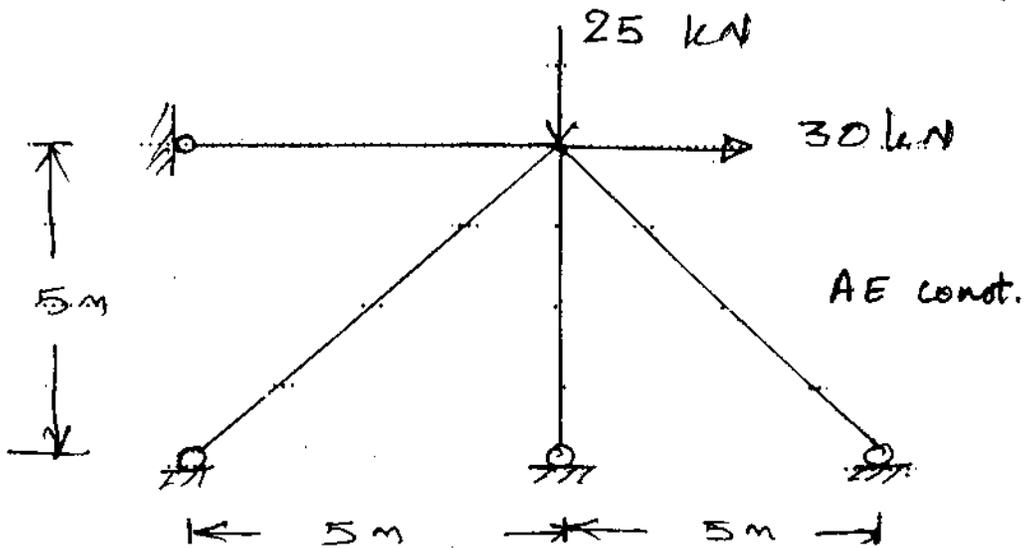

Fig. 4
12. Analyse the pin jointed frame shown in Figure 4 by stiffness method and find forces in the members of the truss. 20